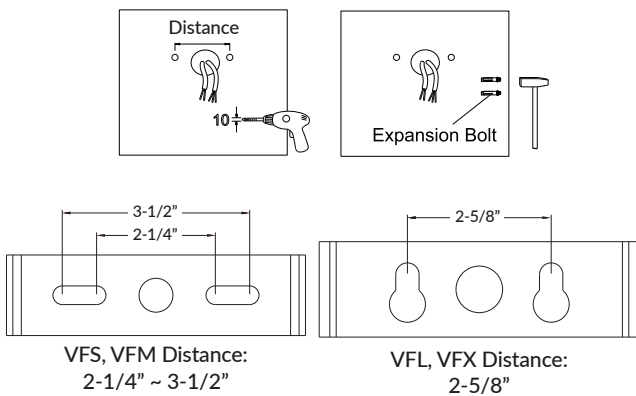

Figure 2-4
- Mark and drill holes in the wall for the Trunnion Bracket based on your fixture's dimensions (refer to the distance provided below). Knock the expansion bolts (provided by other) into the holes (Figure 2-4).